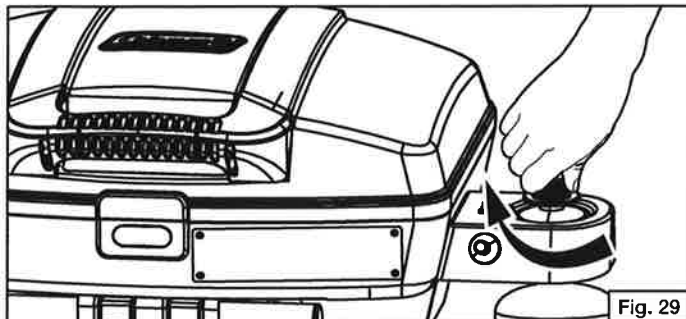

Fig. 29
- Turn the burner control knob to off. (Fig. 29)